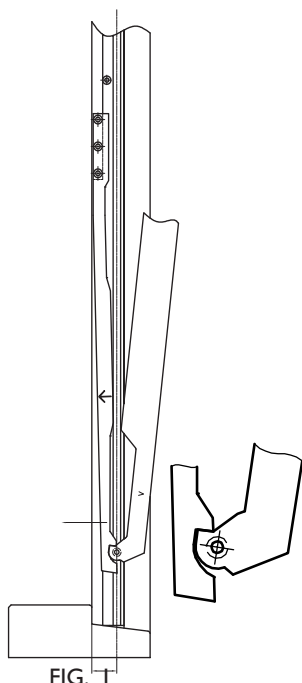

FIG. 1
- SIKRINGEN IPA NR. 21158 MONTERES I VENSTRE SIDE SET INDEFRA MED SKRUE 3.5, SE FIG. 1.
- SOM PUDSESIKRING SKAL ØVERSTE HAK ALTID ANVENDES, SE FIG. 1. NEDERSTE HAK KAN ANVENDES I FORBINDELSE MED ÅBNINGSBEGRÆNSNING, HVOR SMÅ ÅBNINGER ØNSKES.
- VINDUET LUKKES CA. 2 CM. SIKRINGSARMEN, SE FIG. 1, BØJES I PILENS RETNING IND MOD FALSEN OG VINDUET ÅBNES SAMTIDIG.